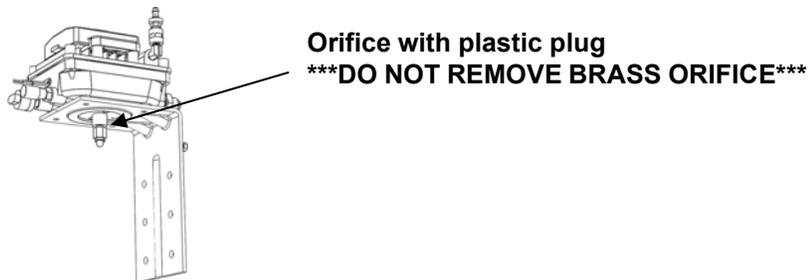

Figure 4: Mounting Housing to Bracket
- Secure with four (4) 1/4-20 bolts and split washers provided with the unit. (Fig. 4).